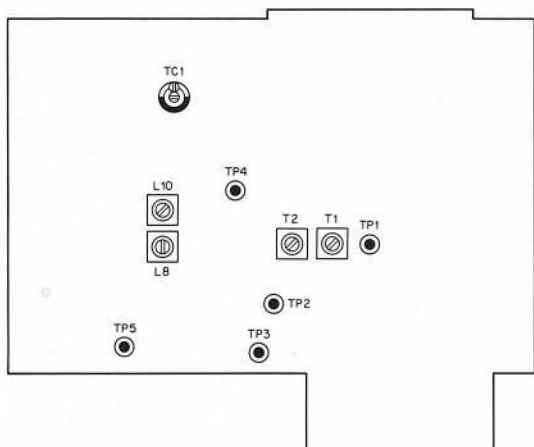

Fig. 33 Counter mixer unit (DG-1: Option)
- Adjust the trimmer TC1 in the counter mix unit for 1 MHz \pm 5 Hz (refer to **Fig. 33**).
- Connect RF VTVM to TP2 in the counter mixer unit (X48-1150-00) and adjust T1 and T2 in the same unit until the peak value is obtained (output is approx. 0.12 to 0.2V) (refer to **Fig. 33**).